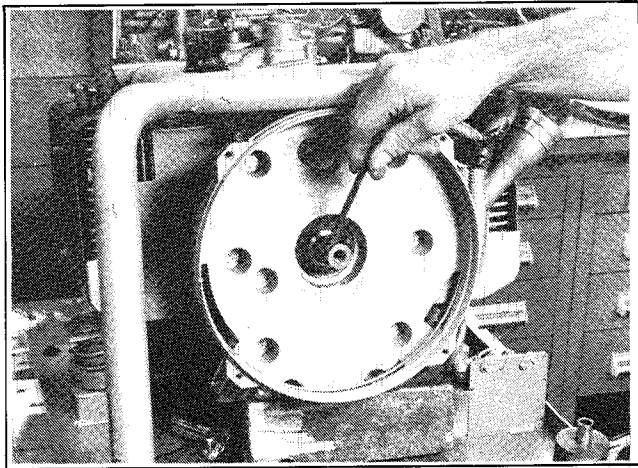

Figure 8-14. Applying Anti-Seize Compound
1. Coat tapered shaft with anti-seize compound, see Figure 8-14.